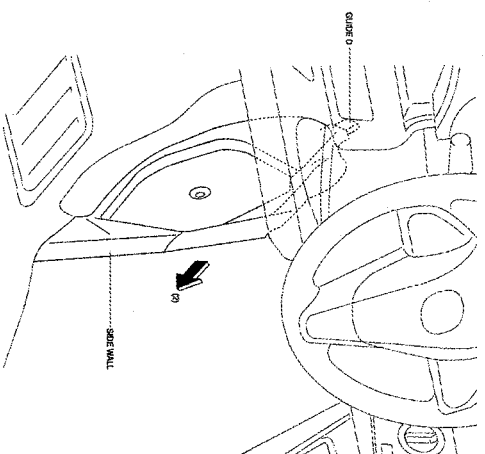

FIGURE 5
- PULL THE SIDE WALL IN THE DIRECTION OF THE ARROW (2) AND THEN REMOVE IT WHILE DETACHING THE GUIDE D. (SEE FIGURE 5)